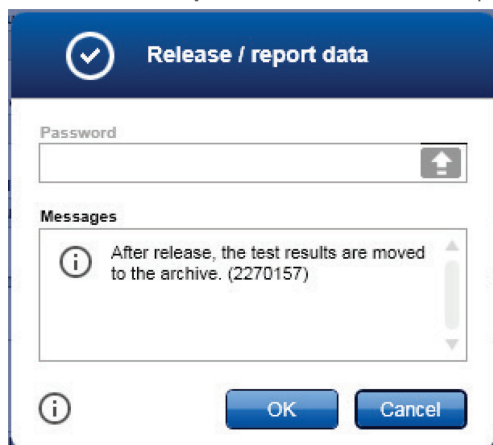

Figure 14. Example of "Release / report data" window.
31. Click **Release / report data**. The Release / report data window will open (Figure 14).